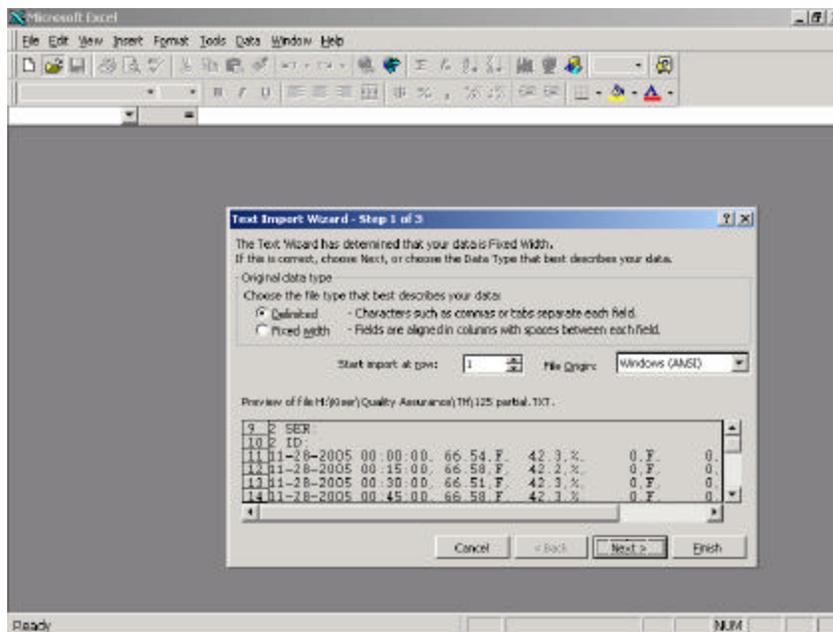

Figure 2. Specifying Environmental Data Format
- At the 'Text Import Wizard – Step 1 of 3' screen (see Figure 2), select 'Delimited' then click on the 'Next' button.